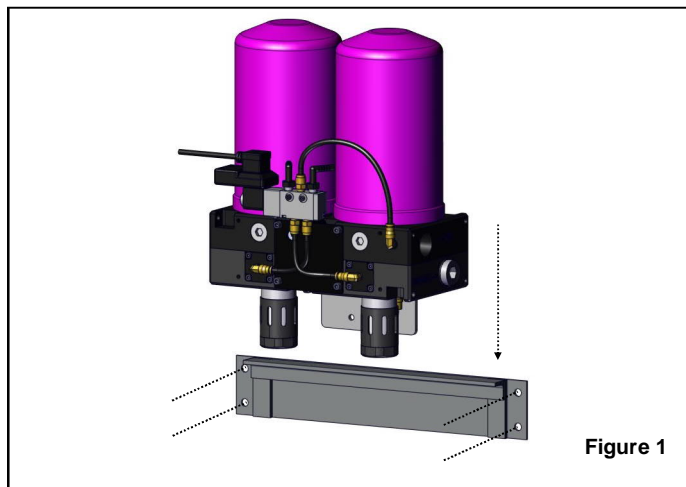

Figure 1
2. Using the appropriate hardware (not included), mount dryer bracket to wall. *Figure 1 weight requirement*
3. Once the wall bracket has been properly secured to the wall, place the dryer mounting rail into the slot(s) of the wall bracket. *Figure 1*